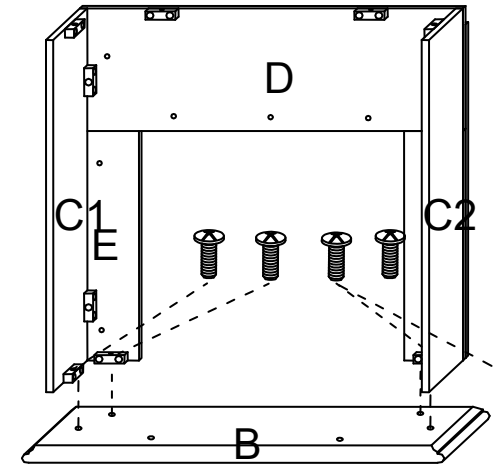

Figure 5
Put the finished mantel assembly onto the **BASE PANEL** (B) with 4 **KD SCREWS** (U). See Figure 5.